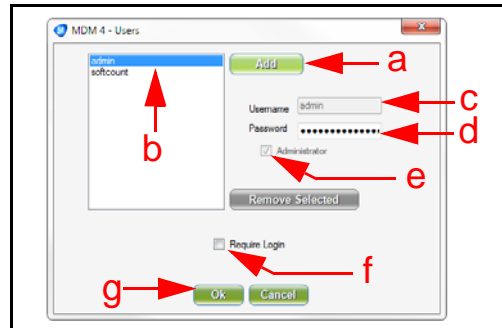

Figure 7 Add New User Screen
1. On the MDM4 Main Screen, click on the 'Administration' pull-down Menu (Figure 6 a) and select 'Users' (Figure 6 b) from the list. The MDM4 - Users Screen (Figure 7) will appear.
2. Click on the 'Add'  Screen Button. (Figure 7 a)
4. The new User will be added to the System, and both the list of Users (Figure 7 b) and the Username field (Figure 7 c) will update.
5. In the 'Password' field (Figure 7 d), enter a Password for the new User.
6. If the new User will need to add or remove other Users and/or change System Settings, then click select the 'Administrator' check box  (Figure 7 e).
7. To require the Login, User and Password, select the 'Require Login' check box  (Figure 7 f).
8. Click on the 'OK'  Screen Button (Figure 7 g) to add the new User, update the System File, and return to the MDM4 Main Screen.